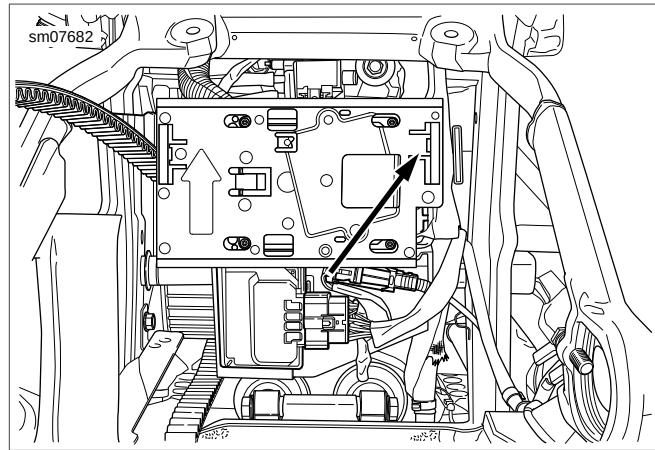
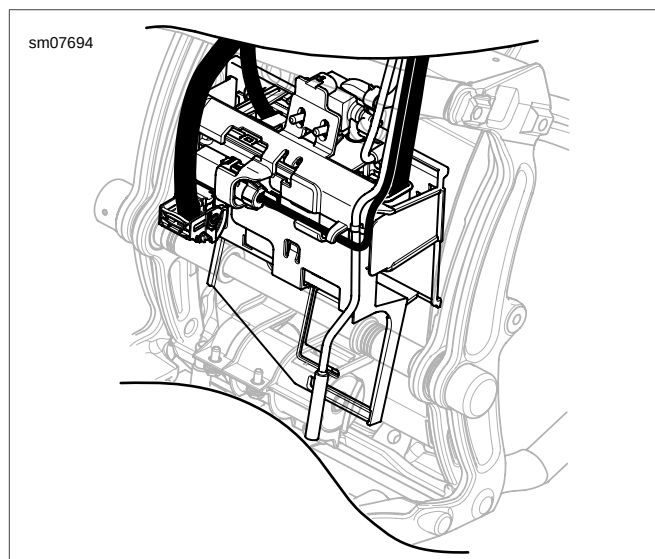

Figure 7-9. ECM
Figure 7-11. BCM Wire Routing
4. See Figure 7-9. Press in on tab and pull ECM panel away from latch.
2. See Figure 7-11. Install BCM connectors with harness routed as shown.
3. Install security siren (1).
4. See Figure 7-9. Push ECM panel forward and engage latch.